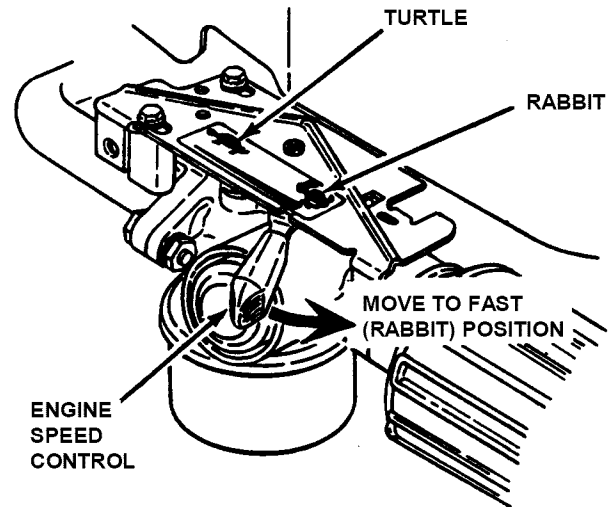

FIGURE 2.4
1. Move engine speed control (Located on the side of the engine) to the "FAST" rabbit position. See Figure 2.4.